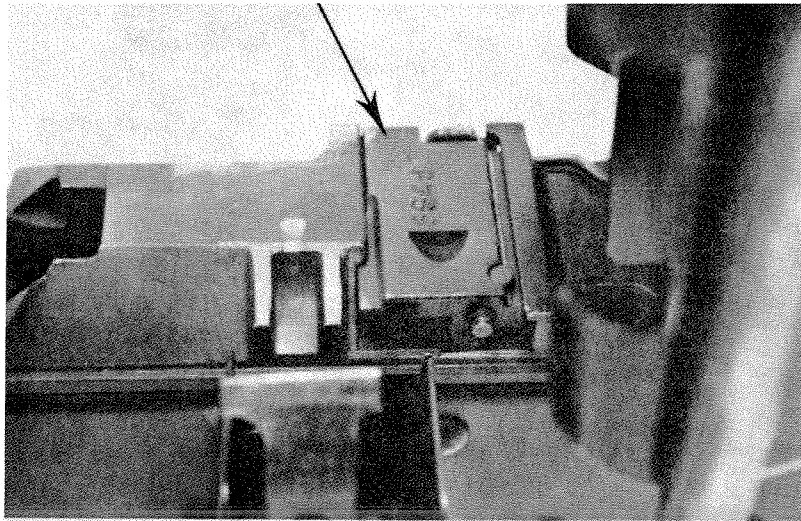
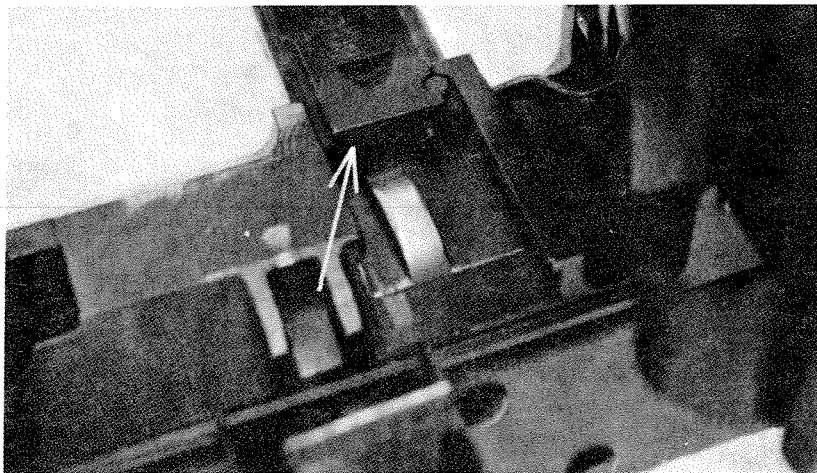
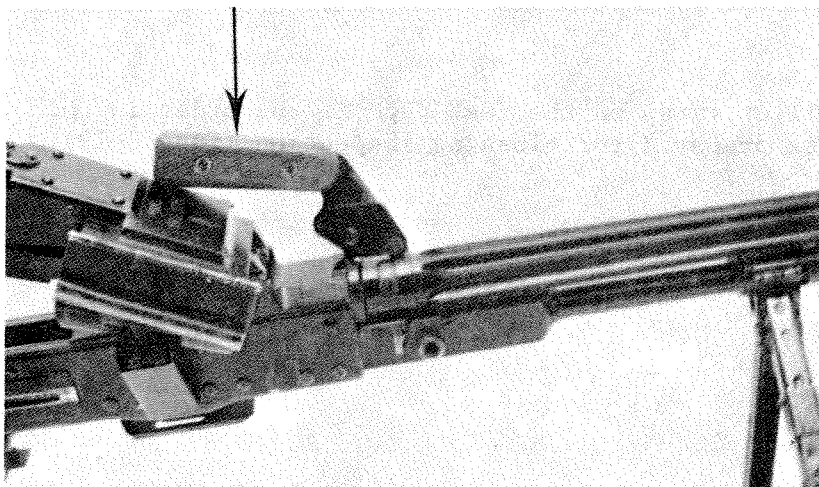
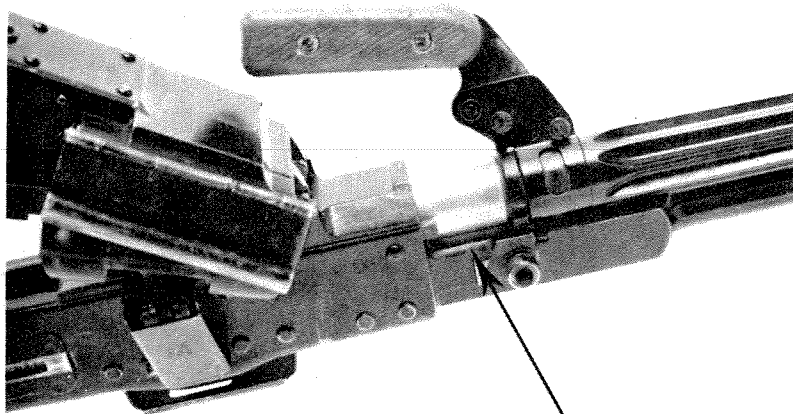

Figure 3-15. Barrel locking latch assembly.
Figure 3-16. Barrel locking latch assembly pushed completely to the left.
Figure 3-17. Barrel quick-change handle.
Figure 3-18. Barrel pulled forward from barrel receiver group.
j. The final step in the disassembly of the PKM machine gun is to remove the barrel. This is done by pushing the barrel locking latch (fig. 3-15) completely to the left-hand side of the receiver (fig. 3-16). Grasp the barrel quick-change handle (fig. 3-17) and pull the barrel forward, disengaging the barrel from the barrel receiver group (fig. 3-18).